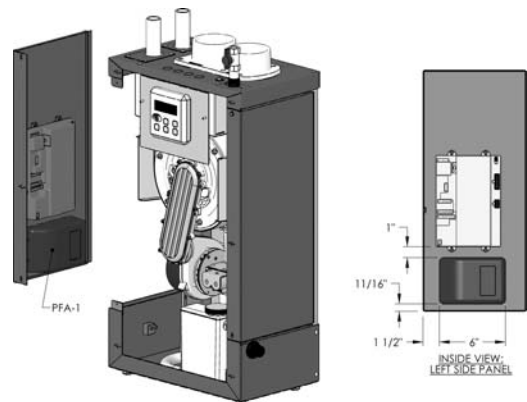

Figure 1
1. Figure 1 shows the suggested mounting location for the PFA-1 Interface Adapter on the PF-50, PF-80, PF-110 and PF-140 boilers.